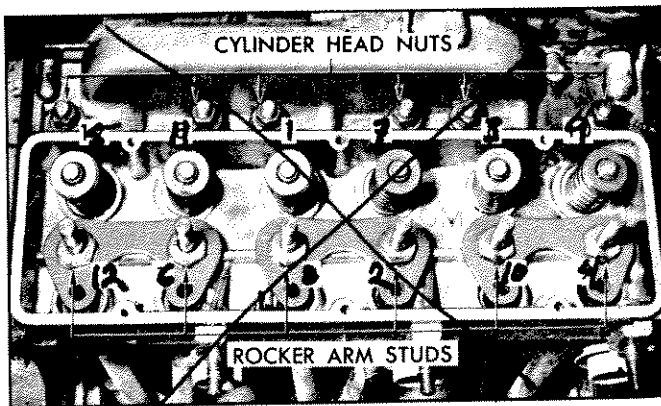

Fig. 34—Cylinder Head Torque Sequence
6. Torque rocker arm studs to 10 ft. lb. below specifications, then torque cylinder head nuts and rocker arm studs a little at a time in the sequence shown (fig. 34) until the specified torque is reached.
Torque cylinder head nuts and rocker arm studs, a little at a time, in the sequence shown (fig. 34) until the specified torque is reached.